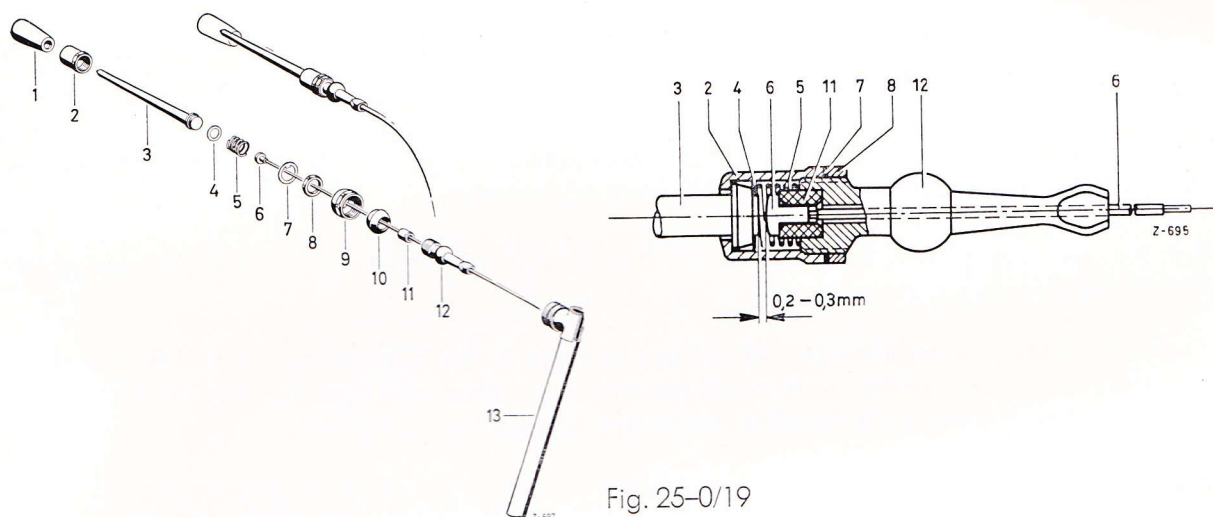

Fig. 25-0/19
The electrical contact at the shift lever is also adjusted with the aid of a testing light. The testing light is connected with one cable to the positive terminal of the battery and the other to the black cable of the electro-magnet for the control valve. After slackening the lock nut (8), screw in the cover cap (2) to the point where the two contacts (3) and (6) touch, that is to say, the point where the testing light just lights up (Fig. 25-0/19).